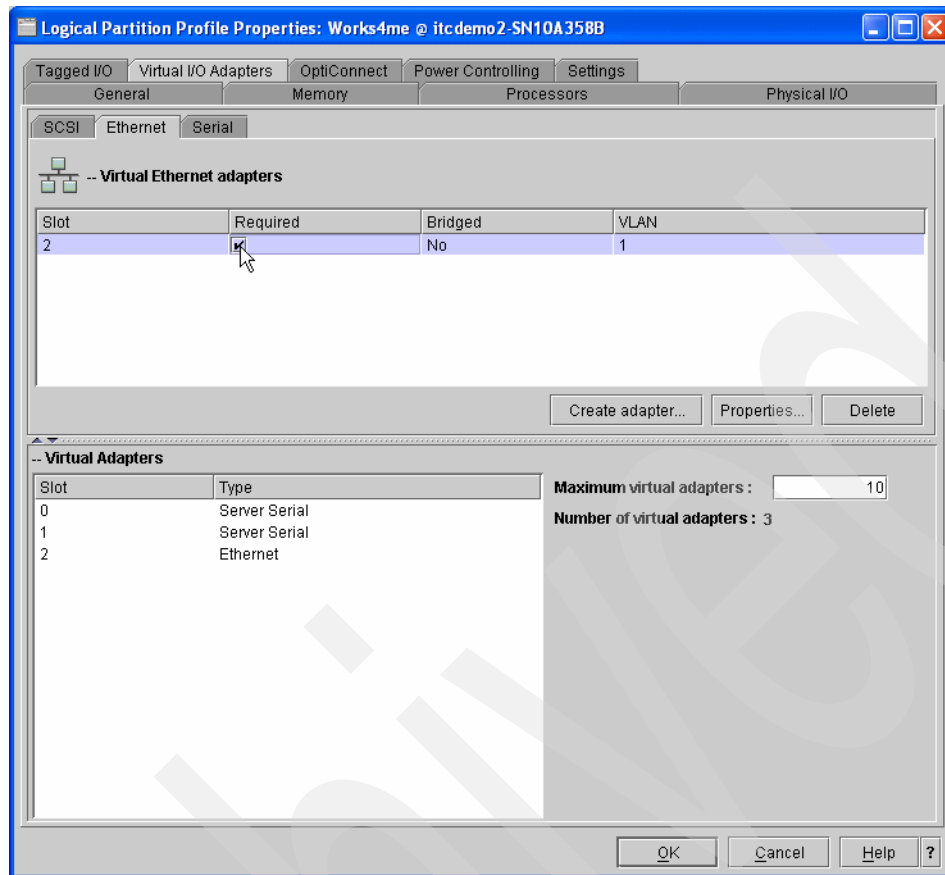

Figure 8-10 Creating Virtual Ethernet resources - 3
5. You see the new Virtual Ethernet resource that you have just created as shown in Figure 8-10 on page 320. Check the **Required** box to ensure that this Virtual Ethernet adapter resource always starts when the partition is activated.